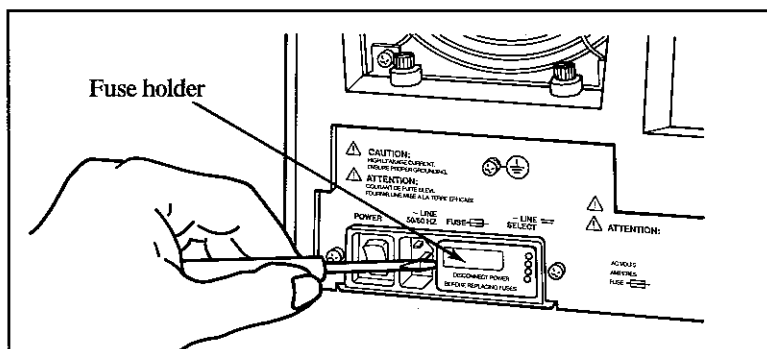

Figure 12-1.
3. Use the end of the screwdriver to pry the cover off of the fuse holder. See Figure 12-1.